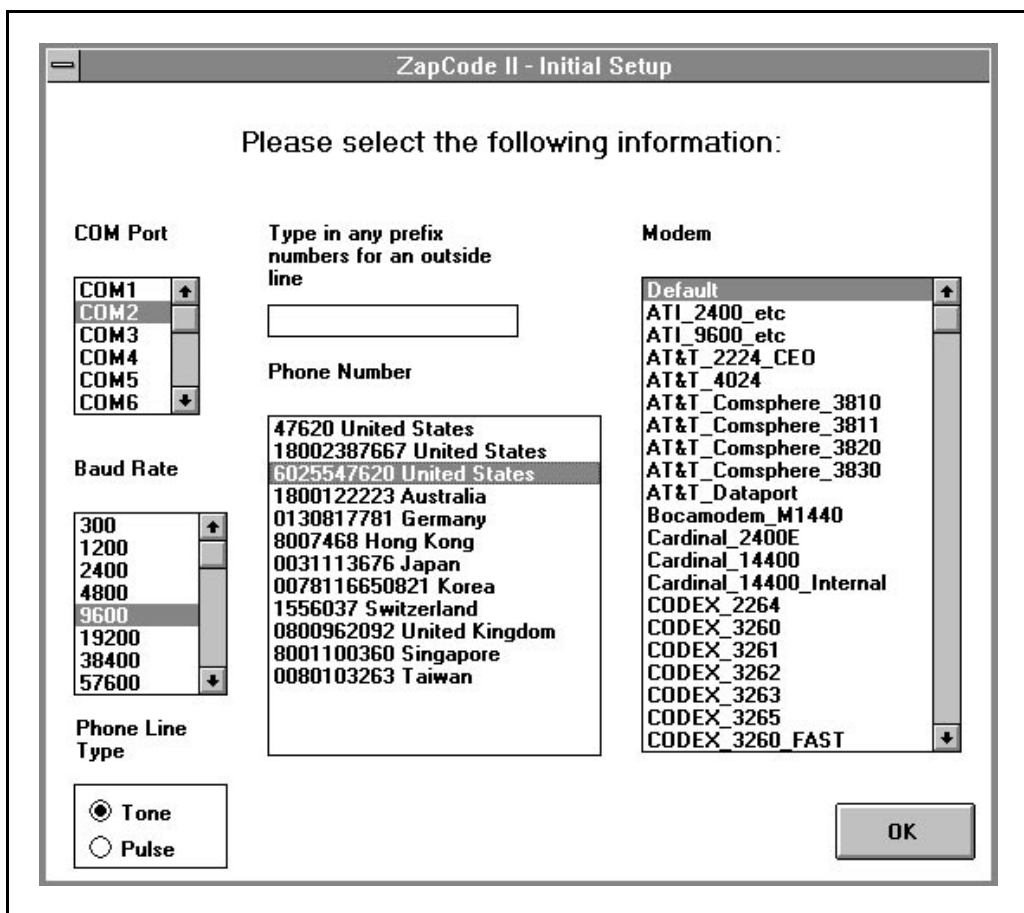

Figure 7-2. Initial Setup Screen
2. Click on the **Initial Setup** button. The Initial Setup screen (Figure 7-2) will display.